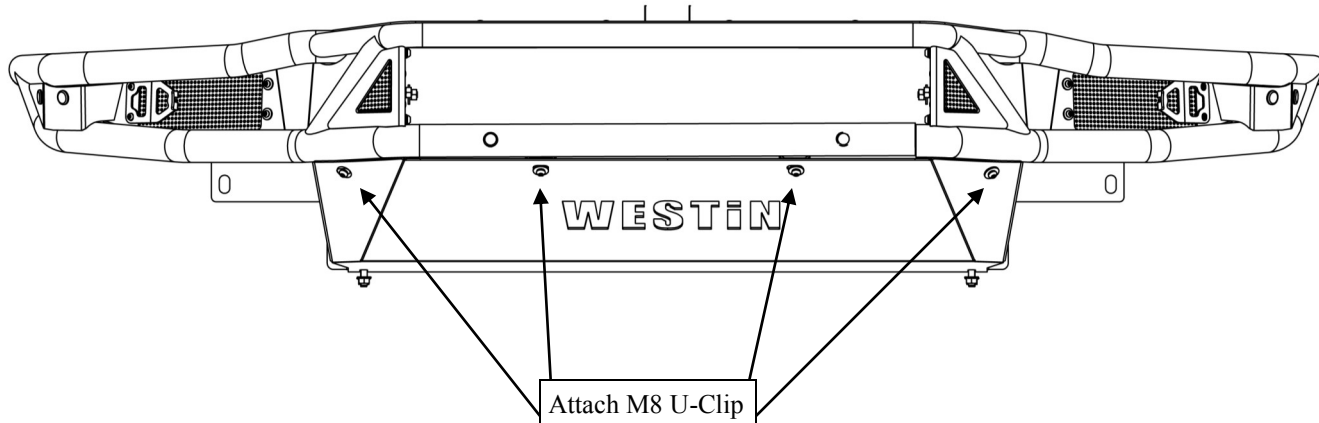

Fig 1
2. Attach the M8 U-Clips (4) to the pre-installed Outlaw Bumper (sold separately) in the locations shown in **Figure 1**.